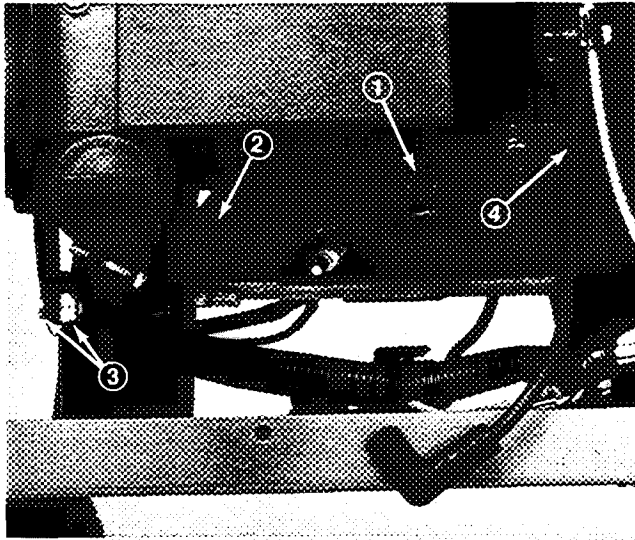

Figure 30
2. Remove self-tapping screws at top and bottom of right hand engine housing and locknut and capscrew next to oil fill and dipstick assembly (Fig. 30).